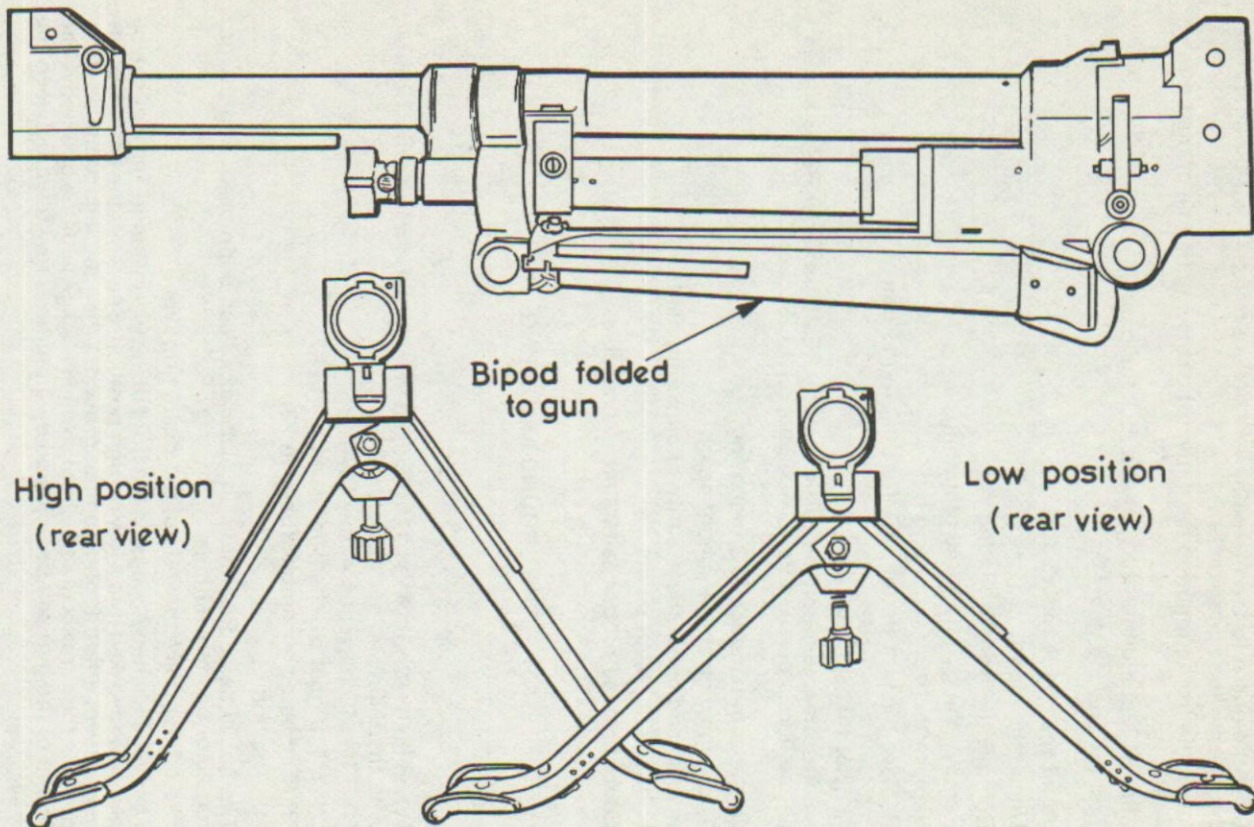

Fig 23 - 7.62mm MG Bipod assembly
- (1) The MG barrel assembly L1A2.
- (2) MG trigger mechanism assembly L7A2.
- (3) The bipod assembly. (See Fig 23).
- (4) The butt.